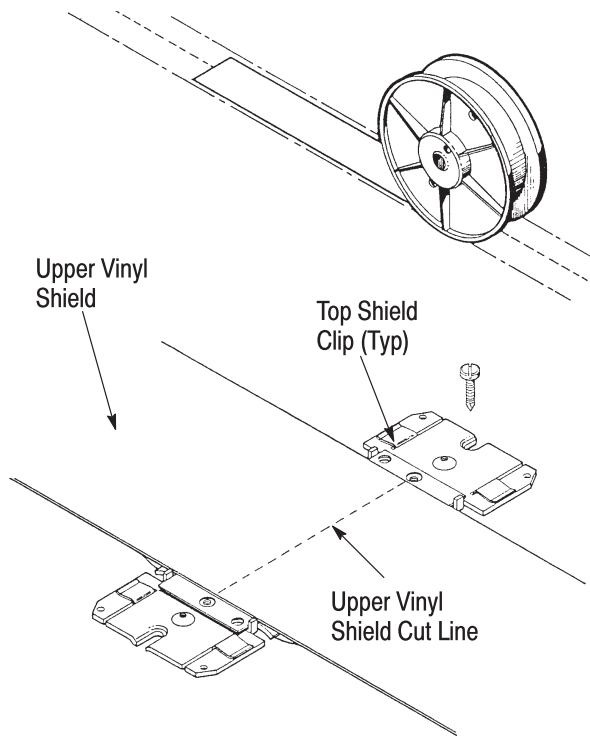

Figure 3
2. Lay cable as shown in Figure 3.